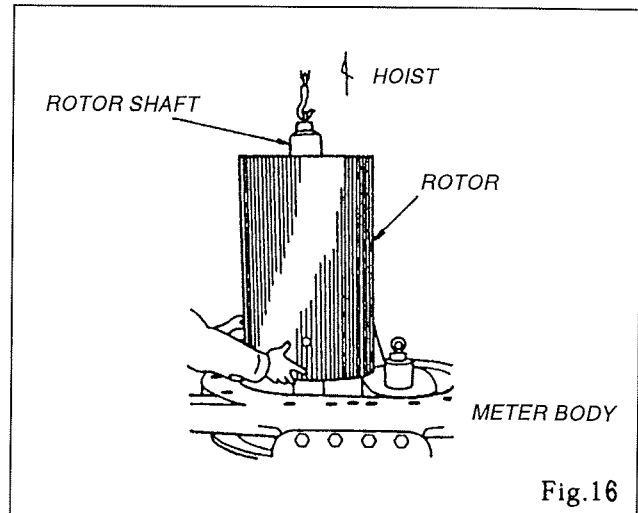

Fig.16
- (8) Remove Oval rotors (201). Install eyebolts on the end face of rotor shafts (202 and 203) and, using a wheel crane or similar equipment, carefully lift them out (Fig. 16).